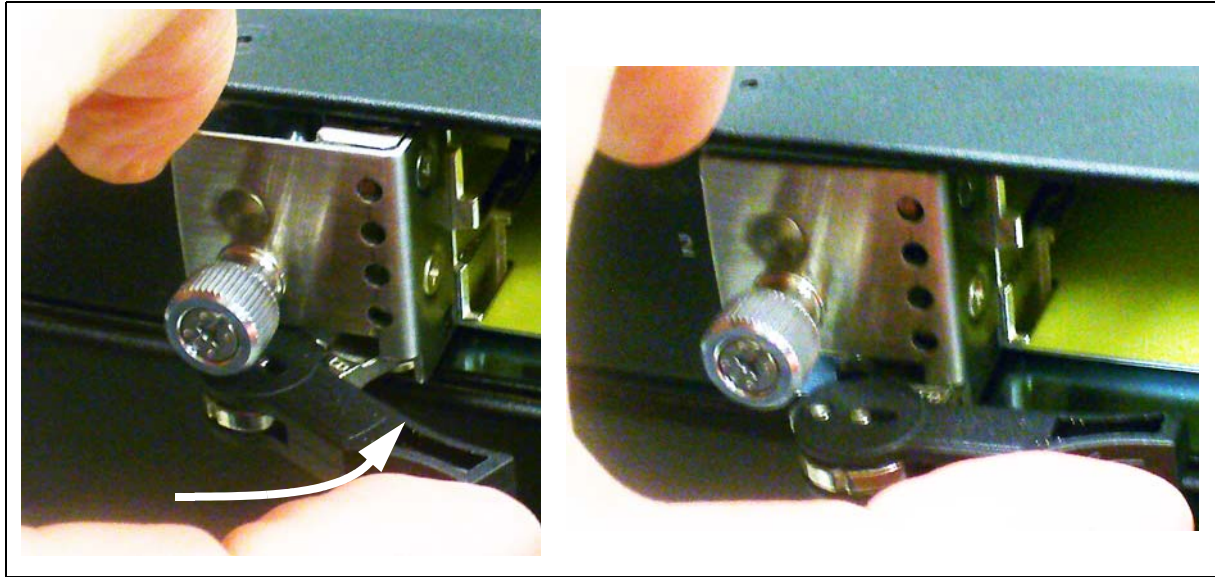

Figure C.31 - G10 IIC Ejector Handle - Seating the Board
6. Push the ejector handles inward until they are flush with the front of the chassis and the blade is inserted fully (**Figure C.31**).